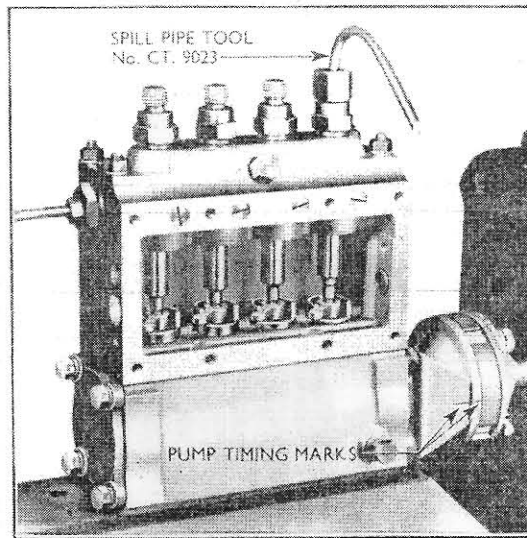

Fig. 21.
13. Ensure that the driving belt of the calibrating machine is fitted to the 200 r.p.m. pulleys (see Fig. 21). Then open the belt pulley cover at right-angles so that the brake mounted behind the lower pulleys is operating against them.